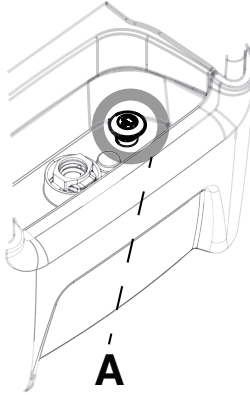

Figure 58: Drain plug
20. Pull up on the controller drain plug (Figure 58 on page 73) to open the drain.